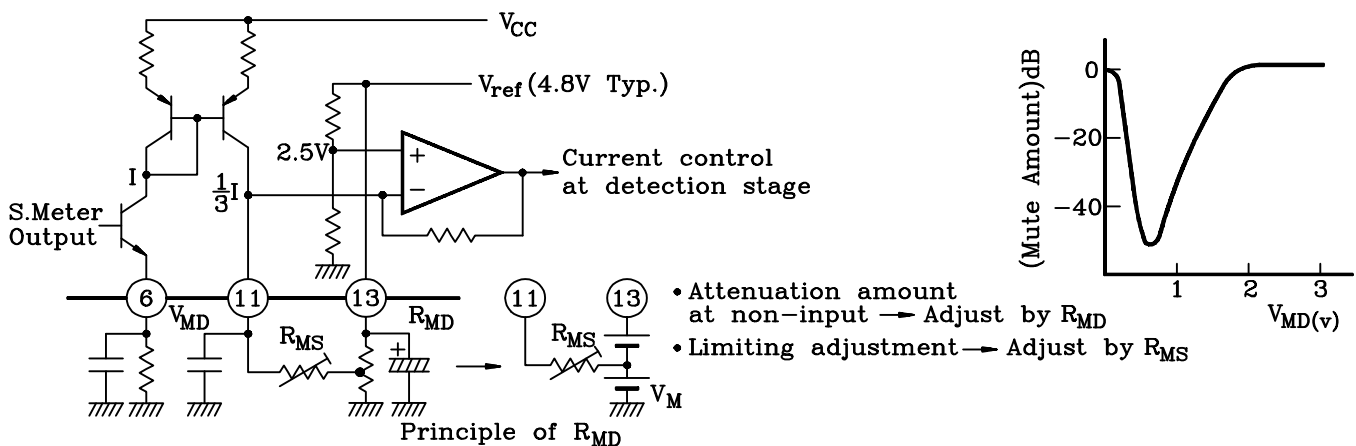

Fig.4
The muting circuit of the KIA6029Z is constituted of an AF amplifier where gain is varied by control voltage and a control voltage generation circuit (Mute Drive) proportional to a signal meter output. Figure 4 shows the outline of the muting circuit. The signal meter output is converted into the current by $10k\Omega$ externally provided on ⑥ pin and $I/3$ current is output in ⑪ pin in 1:1/3 current mirror circuit. This current is converted into a control voltage by R_{MS} and V_H connected outside.